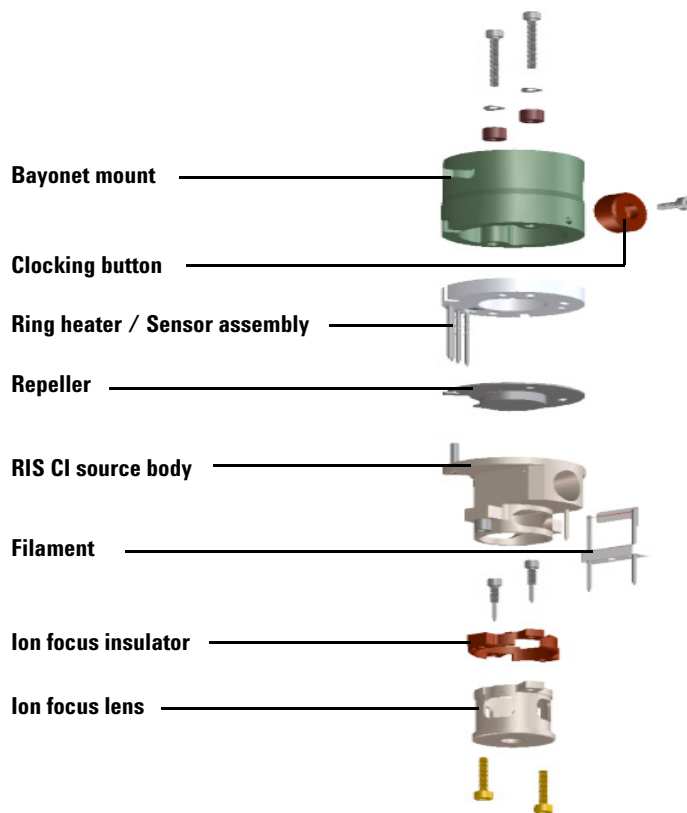

Figure 26 Assembling the CI ion source
- 1 Place the ceramic heater assembly on top of the repeller, aligning the grooves on the repeller with the slot on the heater assembly. (Figure 26).
- 2 Place the repeller on the source body. (Figure 26).